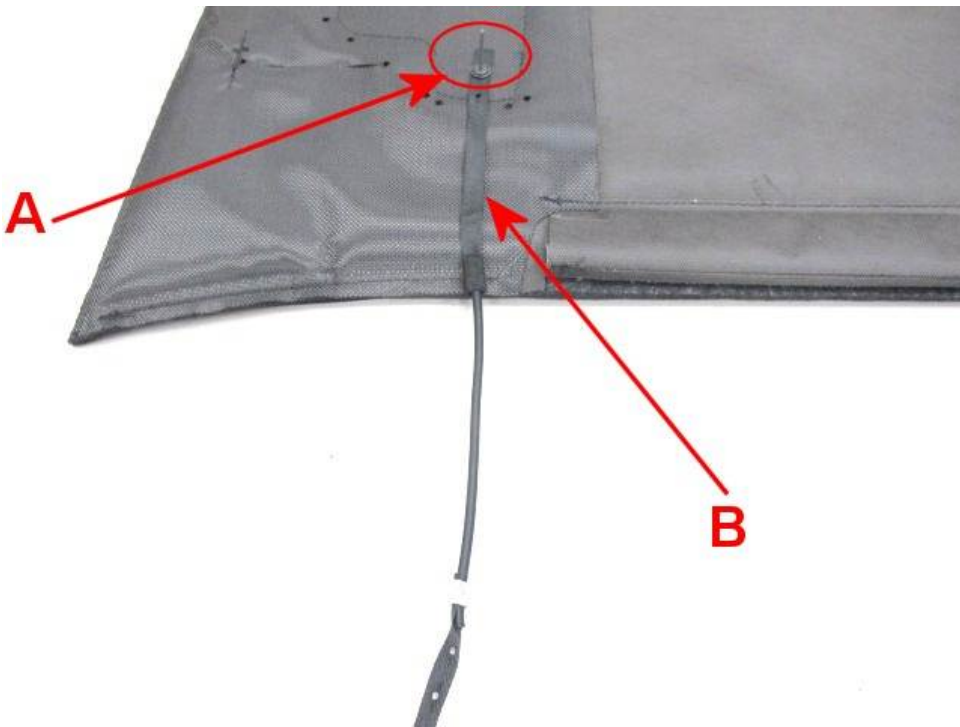

Figure 6
- Referring to Figure 6 - Insert the rivet and strap assembly into the hole (A) **IMPORTANT:** When positioning the new strap prior to riveting ensure the orientation is correct: The long strap end should be as (B) **NOTE:** *The strap should be positioned as shown*